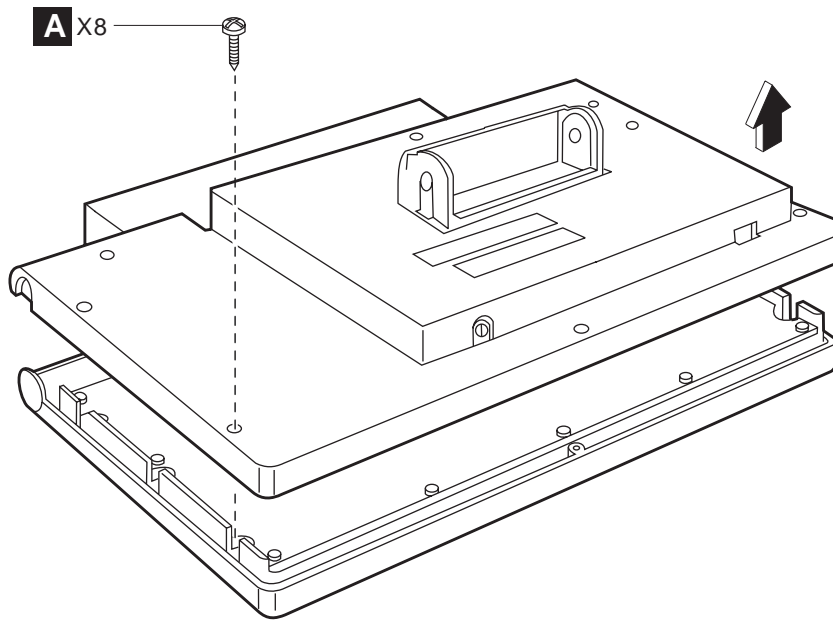

Figure 59. Removing the cover of the USB PLU keyboard/display
1. Remove the eight screws (**A** in Figure 59 on page 60).